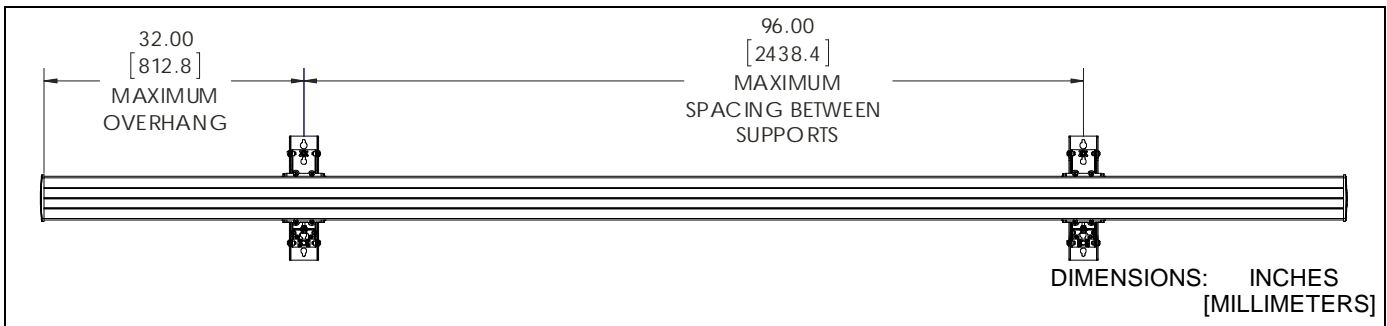

Figure 1
1. The **longest span between wall attachment brackets** (center to center) is **96 inches (8 feet)**. (See Figure 1)
2. The **longest overhang** (center of wall attachment bracket to end of extrusion) is **32 inches**. (See Figure 1)